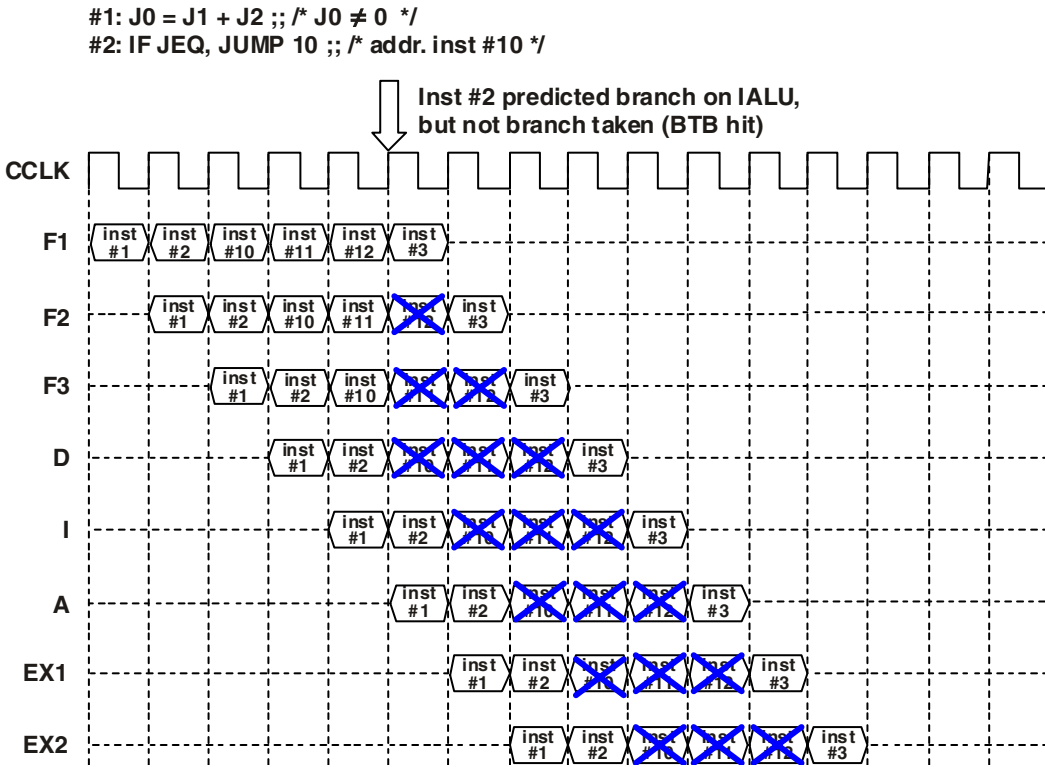

Figure 7-30. Predicted Branch Based on IALU Condition—Branch Not Taken—With BTB Hit
Figure 7-30 shows a predicted branch that is based on an IALU condition. Because the branch is incorrectly predicted as taken and the BTB contains the branch instruction (BTB hit), the pipeline contents are not continuously executable (three pipeline stages voided), and there are three lost cycles (branch cost). Note that the pipeline evaluates the compute condition (JEQ flag set by instruction #1) when the conditional instruction reaches the Integer (I) pipeline stage. From this evaluation, the pipeline determines how many pipeline stages to void.